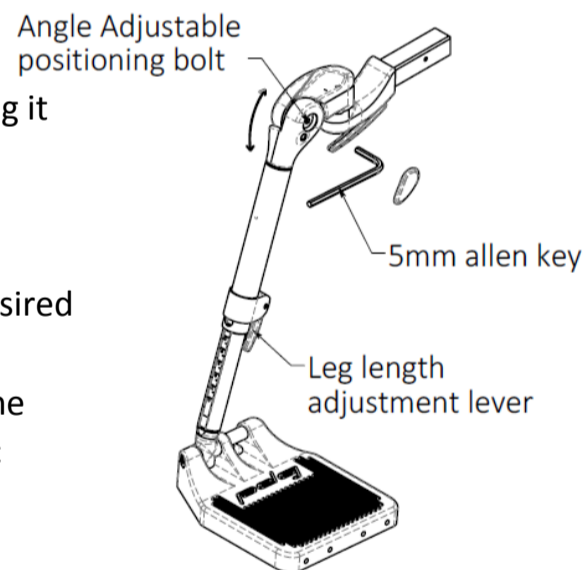

Figure 14.18: Easy-Out Angle Adjustable Front Rigging
- Release the footrest extension adjustment lever. This is shown in figure 14.18.